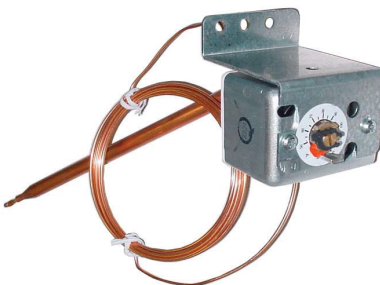

Figure 24. Unit-Mounted Ductstat
- **Ductstat with capillary tubing (option AG3):** The unit-mounted ductstat (see Figure 24) has an adjustable range of 0°F to 100°F (–17.8°C to 37.8°C) with a fixed differential of 3°F (1.7°C). The sensor is factory-set at 70°F (21.1°C). Due to different CFM settings and outside air temperatures, the average downstream outlet temperature may not match the ductstat setting exactly. After the installation is complete, adjust the setpoint of the ductstat to achieve the desired average outlet air temperature.